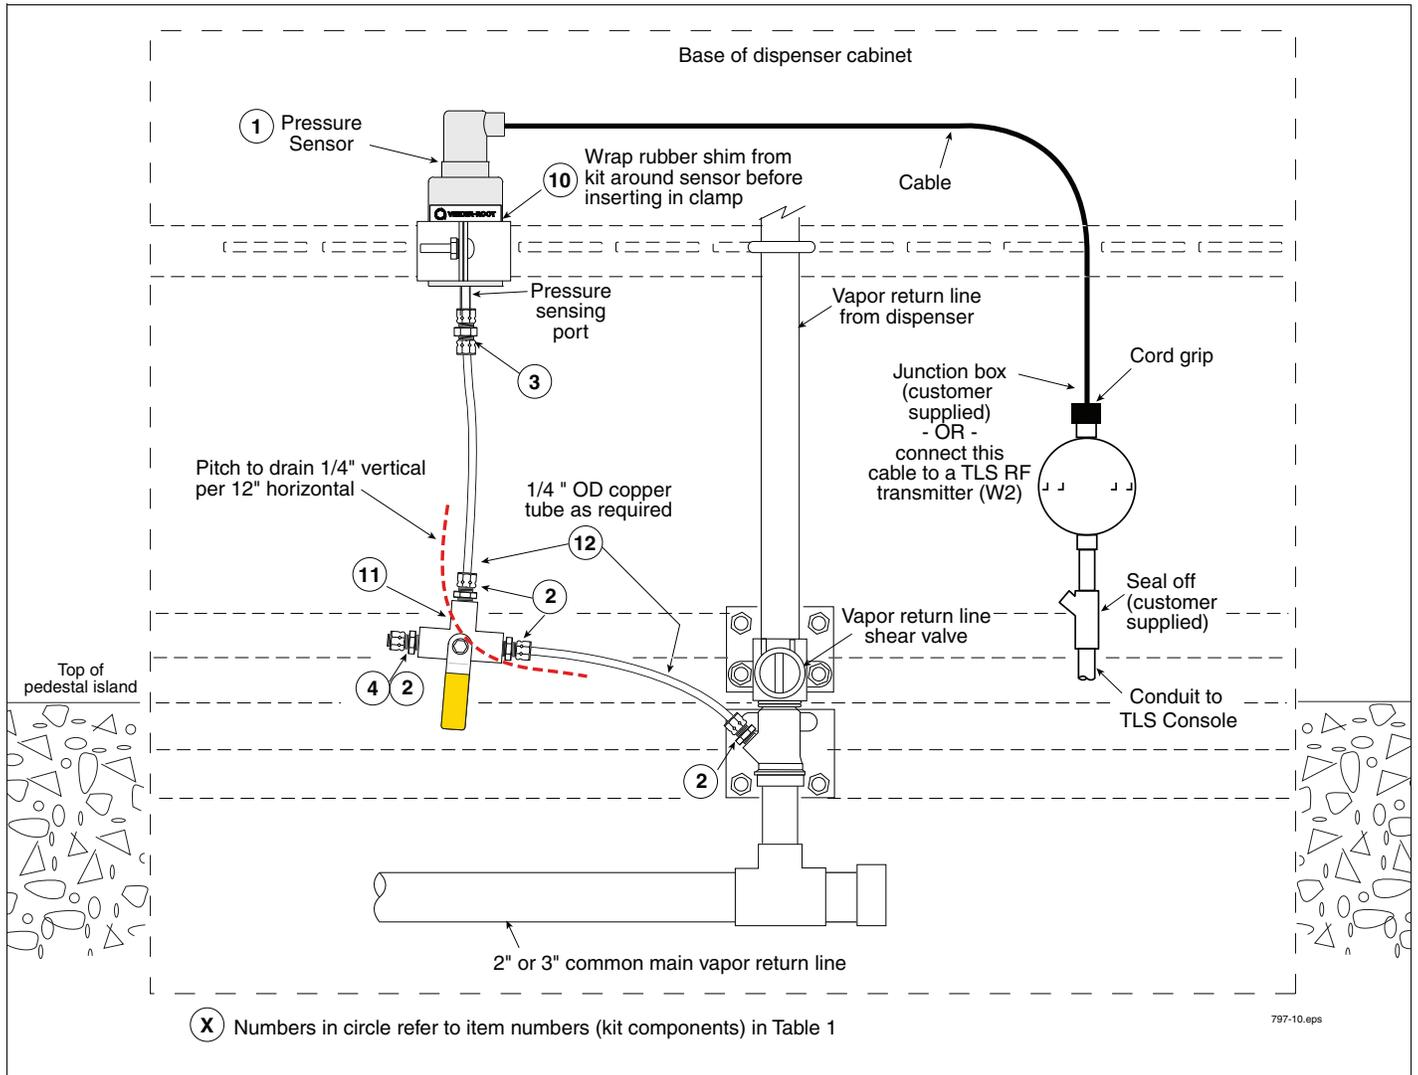

Figure 2. Example Pressure Sensor Install In Shear Valve Port - Preferred Non-ISD Installation (Without Vapor Flow Meter)
3. Refer to Pressure Sensor dispenser installation examples in Figure 2 through Figure 6 to locate a suitable port or plumb a suitable fitting for the Pressure Sensor tubing in either the vapor return shear valve or in the